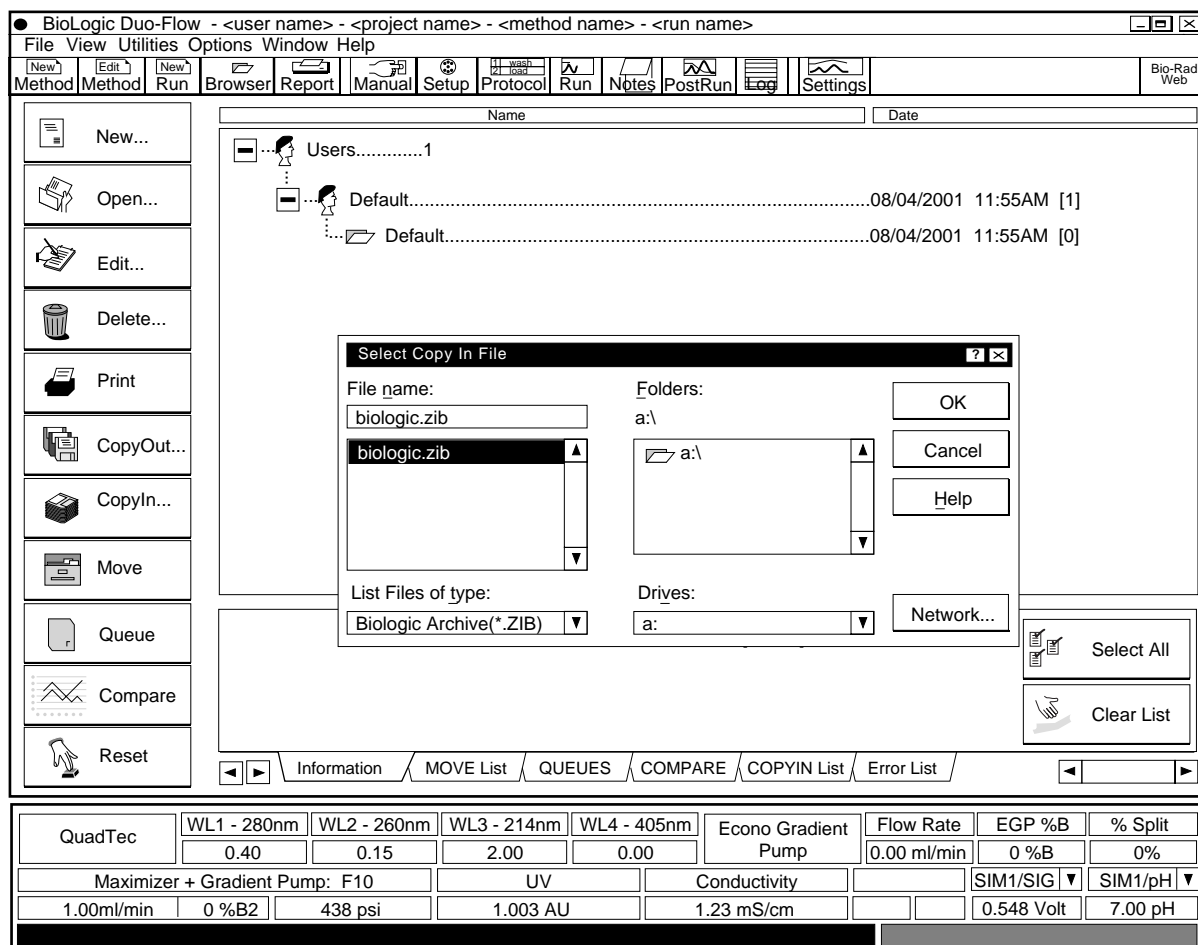

Figure 6-2. The CopyIn Window
- Press the CopyIn... button and select the .ZIB file you wish to copy in. (Figure 6-2 above.)